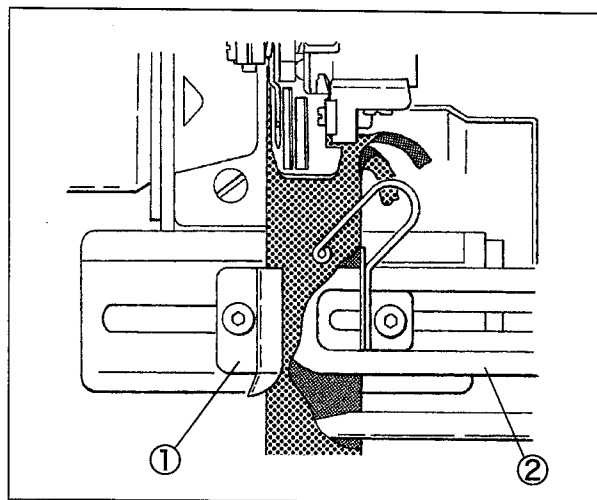

Fig. 22
- (1) Push the toggle switch by the knee to open the fabric guide ① and the folder ②.
- (2) Place a rib-knitted fabric correctly referring to Fig. 22.
- (3) Again push the toggle switch to close the fabric guide ① and the folder ②.
- (4) Heel back the pedal to raise the presser foot and place the rib-knitted fabric on each roller.
- (4) Heel back the pedal to raise the presser foot and place the rib-knitted fabric on each roller. Put the body part of fabric on it.
- (5) Press the pedal to lower the presser foot and start sewing.
- (6) When the start of sewing comes to the folder ② closely, push the toggle switch to open the folder ②, then sew the fabric to finish.